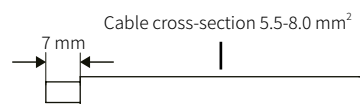

Fig. 45. Wire end stripping.
2. Strip 7 mm of the insulation sleeve of the DC cable, as shown in Fig. 45.